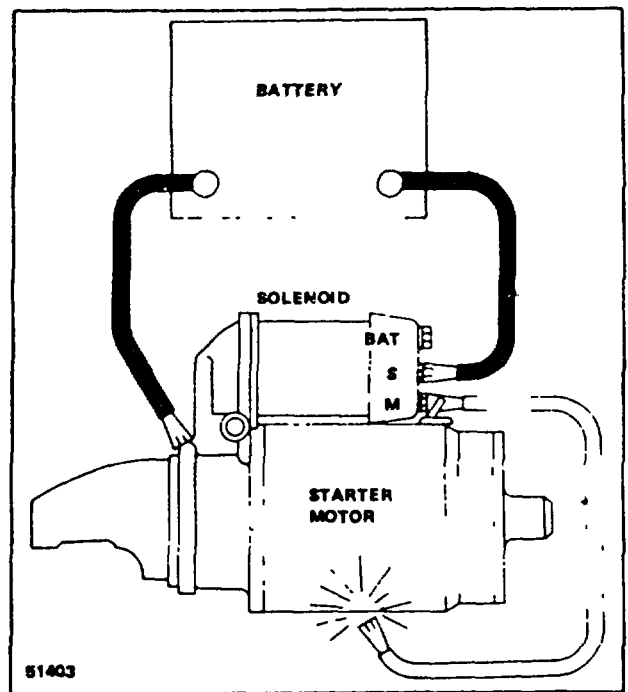

Figure 61. Circuit for Checking Pinion Clearance'
- Connect a battery, of the same voltage as solenoid, from the solenoid switch terminal to the solenoid frame (See Figure 61).